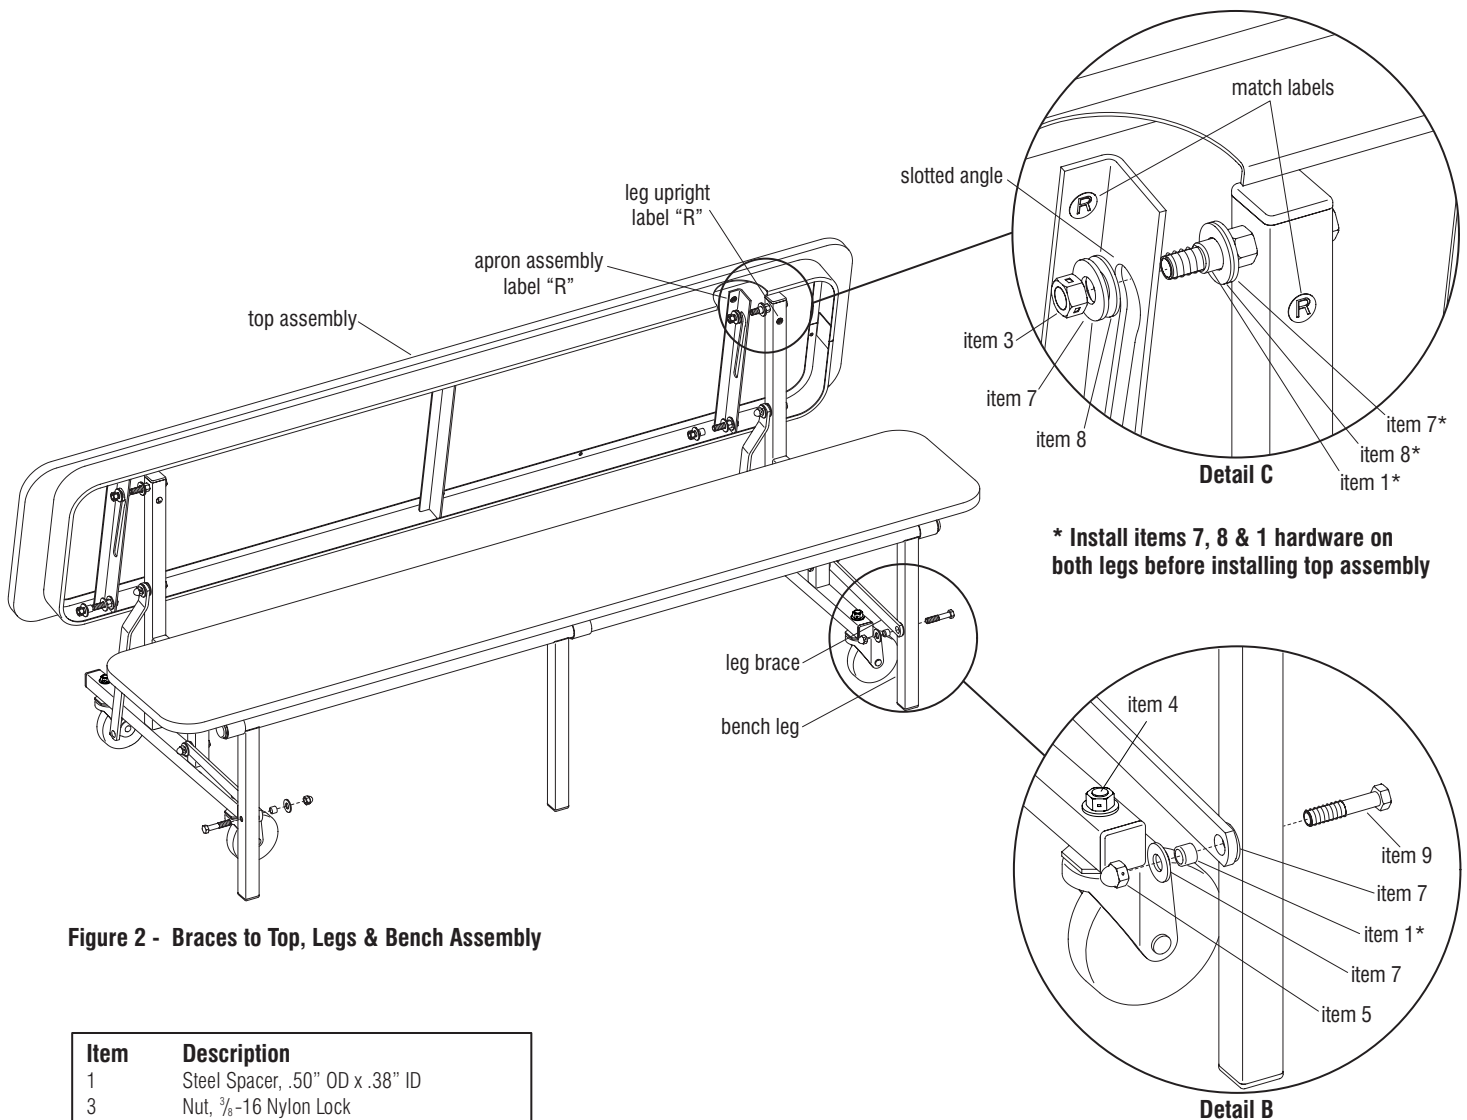

Figure 2 - Braces to Top, Legs & Bench Assembly
5. Align item 9 screws with holes and attach bench assembly with 1/4" flat washers (item 6) and 1/4-20 nylon lock nuts (item 2) (Figure 2 & Detail B).
1. Install leg braces to bench legs using hardware installed in sequence shown (Figure 2 & Detail B).
2. At top of leg uprights, install 3/8" flat washer (item 7), 1/2" nylon washer (item 8) and 3/8" steel spacer (item 1) onto leg bolts in sequence shown (Detail C).
5. Install 1/2" nylon washer (item 8), 3/8" flat washer (item 7) and 3/8-16 nylon lock nut (item 3) onto bolts and tighten (Detail C).